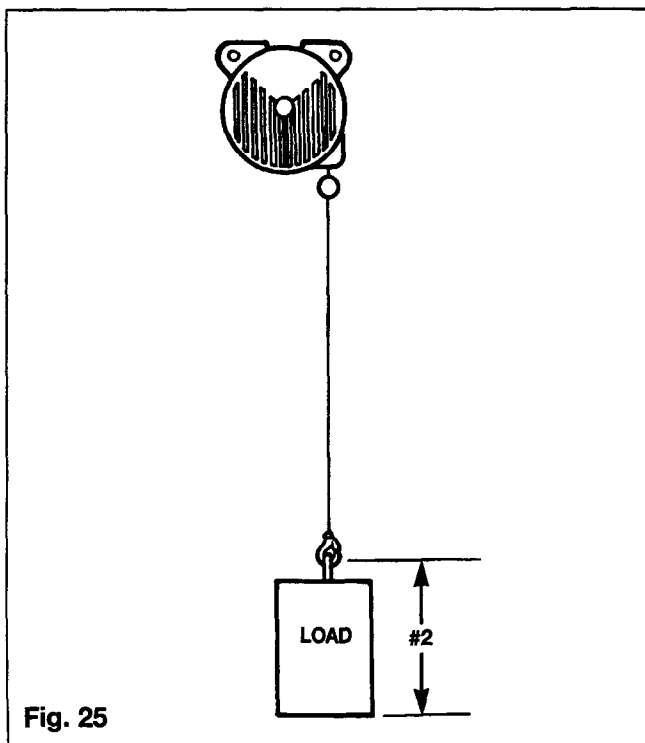

Fig. 25
2. Distance from hook throat to bottom of load. (Ref. Fig. 25).